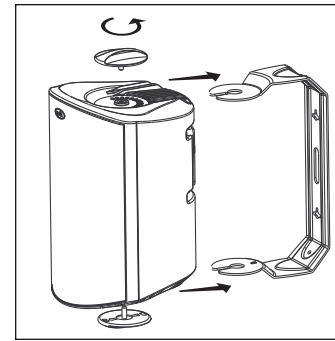

FIGURE 14: Turn the bracket knobs to remove the bracket assembly.
- Secure the speaker to the bracket by sliding the speaker between the bracket arms. The built-in ramps will spread the bracket slightly and guide the ends of the bracket onto the threaded protrusions. A ratcheting system holds the speaker in place and helps you fine tune how you want to aim it. [figure 14].